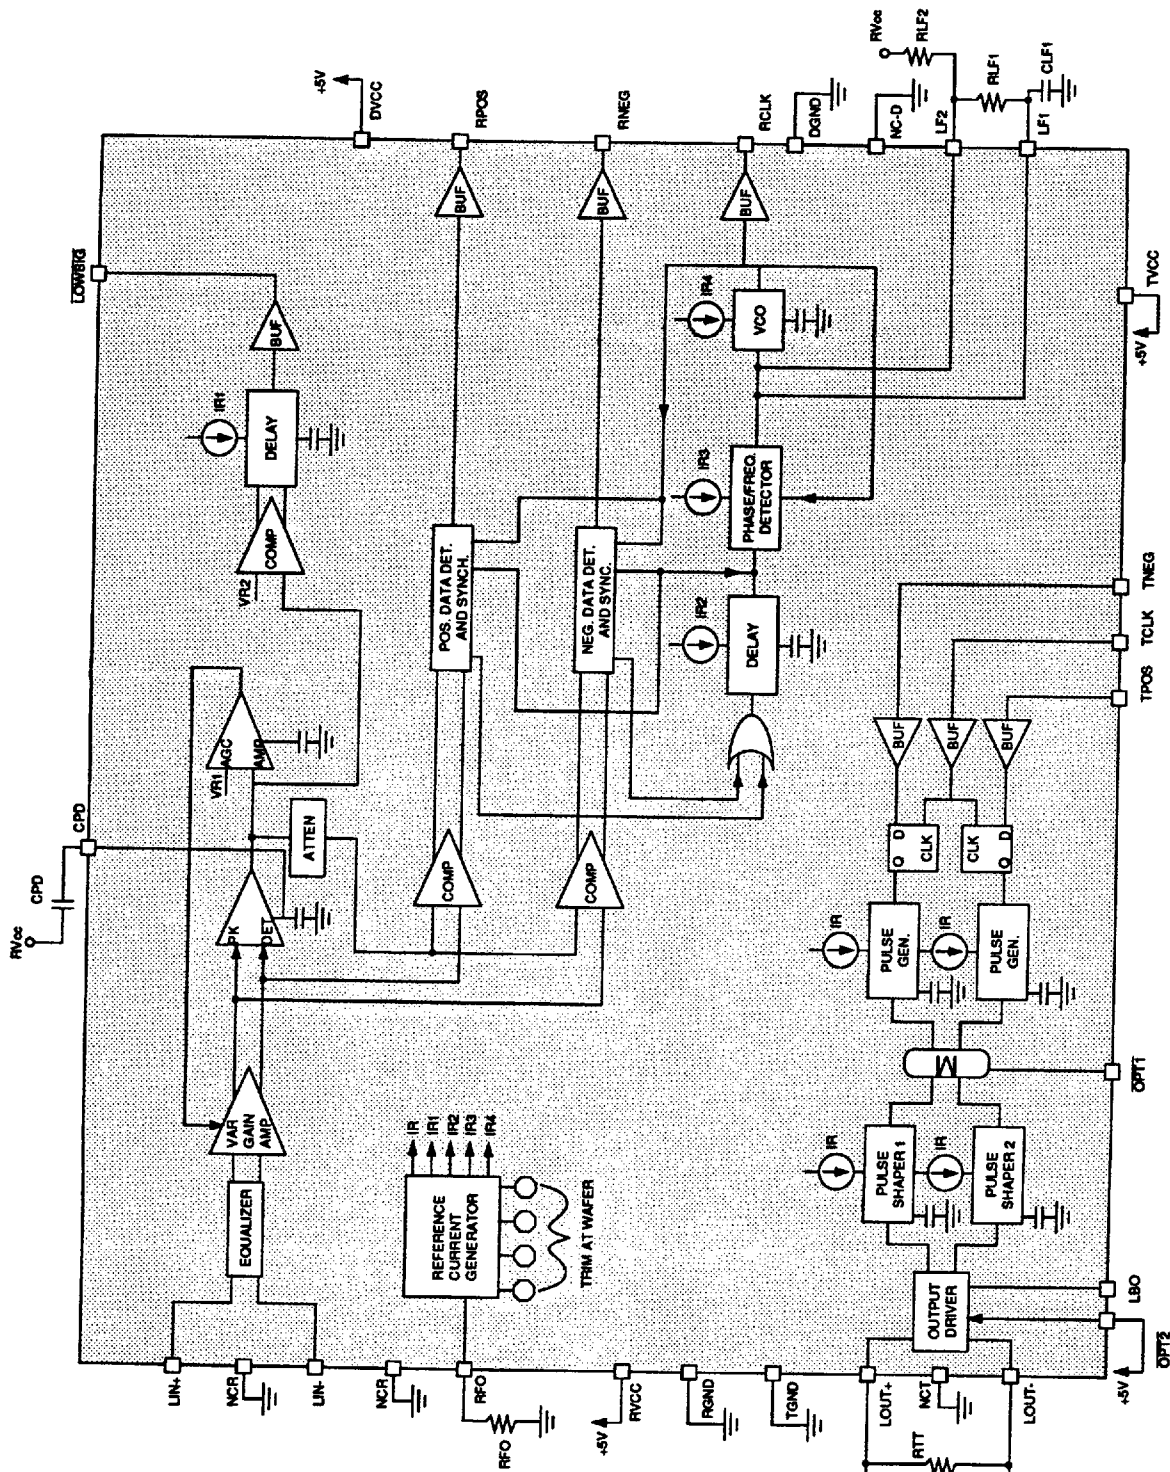

FIGURE 1: Functional Diagram
The AMI signal first enters a fixed equalizer which is designed to overcome the intersymbol interference caused by long cable lengths and crosstalk. This fixed equalizer is optimized for DS-3 application and its effect should be compensated by an external filter circuit similar to Fig. 1, for all square shaped signals such as DS3-high or 34 Mbit/s E3. The signal is then input to a variable gain differential amplifier whose output is maintained at a constant voltage level regardless of the input voltage level. The gain of this amplifier is adjusted by detecting the peak of the signal and comparing it to a fixed reference.
1. The input signal is transformer coupled as shown in Figure 1.